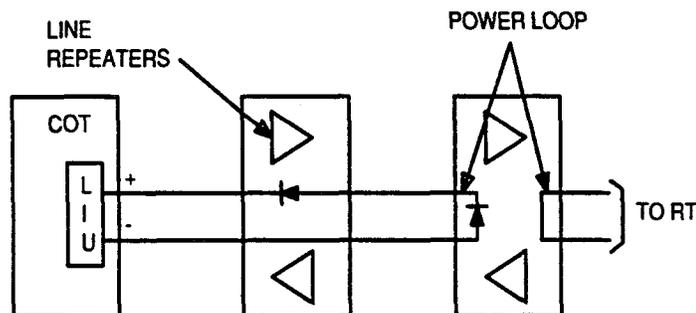
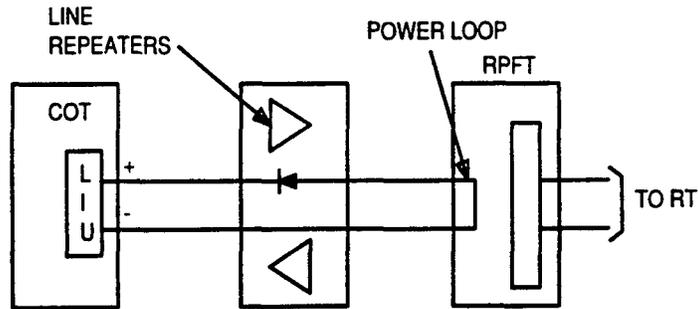
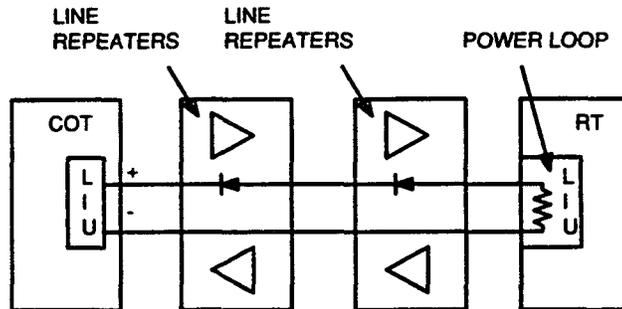

Figure 1—Power Looped in Digital Line
Figure 2—Power Looped in RPFT
Figure 3—Power Looped in RT
6. Where is power looped (FIG. 1)(FIG. 2)(FIG. 3)?